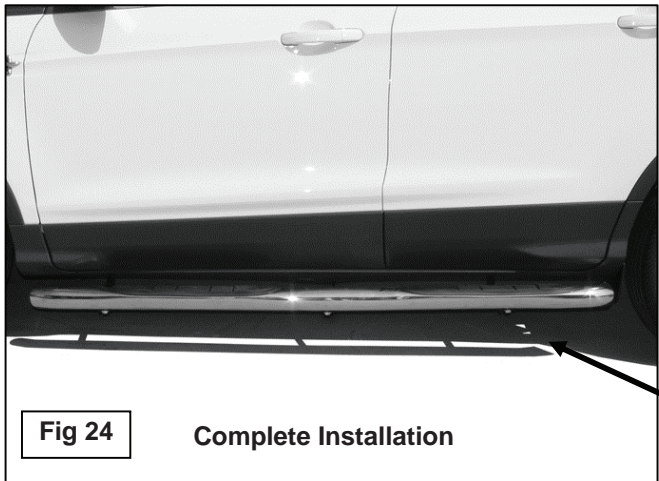

Fig 24 Complete Installation
10. Carefully unwrap and select the driver Sidebar. Place the Sidebar in position on top of the (3) Brackets. **NOTE:** It may be necessary to loosen the Brackets slightly to line up the cradles with the threaded inserts in the Sidebars. Bolt the Sidebar to the Brackets with (6) M10 x 30mm Hex Bolts, (6) M10 Lock Washers and (6) 10mm flat washers, (Fig. 24).